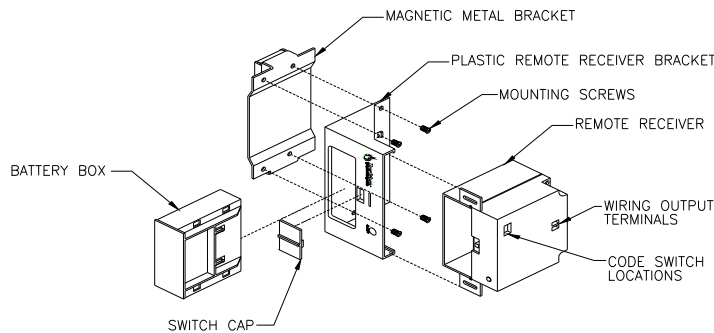

Figure 1
2. Fasten the **Plastic Remote Receiver Bracket** to the **Magnetic Metal Bracket** supplied with the kit. Refer to Figure 1.
2. There are also **Code Switches** on the **Remote Receiver**. Slide the **Code Switches** to exactly match the settings on the **Remote Transmitter**. Refer to figure 1.